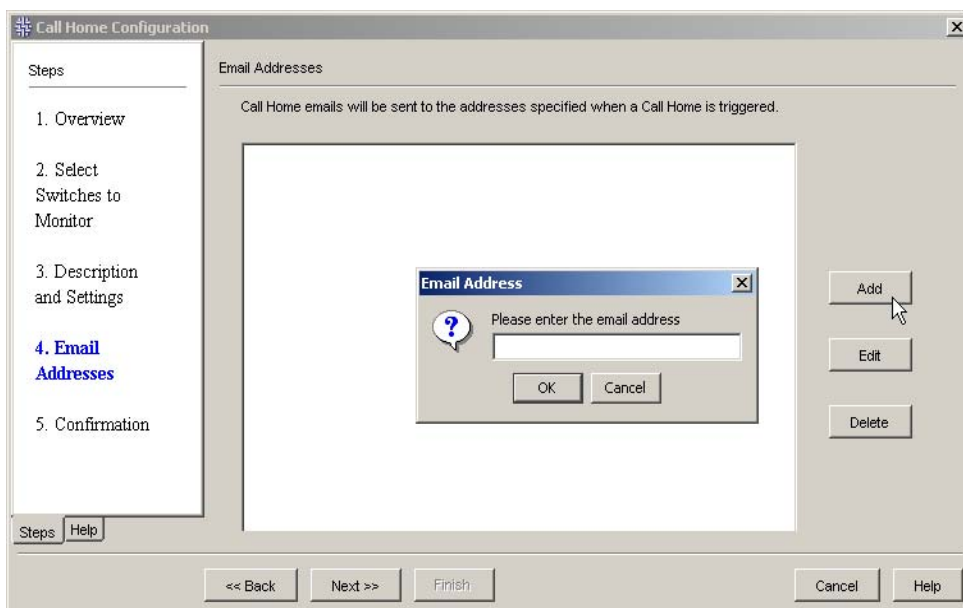

Figure 149 Call Home wizard Email Addresses
11. Specify the e-mail addresses where the Call Home e-mail notifications are to be sent and then click **Add** to access the Email Address dialog box (see Figure 149).